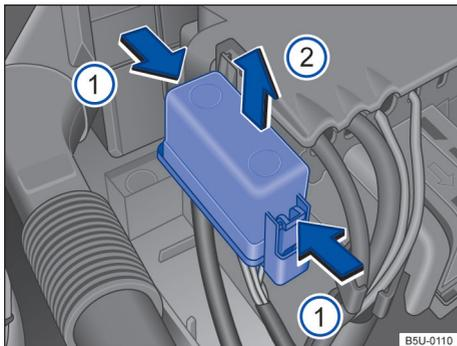

Fig. 145 On the engine compartment: fuse box cover.
- Press the retainers in the direction of the arrow → **Fig. 145** ① to release the fuse box cover.
- Lift off the cover in the direction of the arrow ②.
- To **fit**, place the cover over the fuse box. Press the cover down, in the opposite direction to the arrow ③, until it clicks into place.